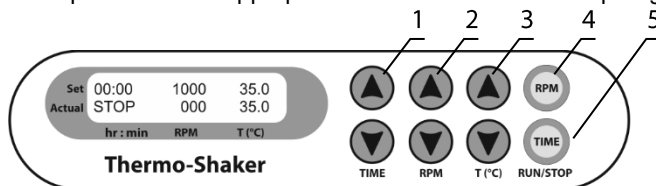

Fig.1 Control panel
- 4.3.1. **Setting time (TIME)**. Using the ▲ and ▼ keys (Fig. 1/1) set the required working time interval in hours and minutes (increment 1 min).
- 4.3.2. **Setting speed (RPM)**. Using the ▲ and ▼ keys (Fig. 1/2) set the required speed (increment 10 RPM).
- 4.3.3. **Setting temperature (T,°C)**. Using the ▲ and ▼ keys (Fig. 1/3) set the necessary temperature (increment 0.1°C).
- 4.4.2. Press the **RPM-RUN/STOP** key (Fig. 1/4). The platform will start rotating and the timer indicator will start counting up the time interval (with 1 min precision).
- 4.6. The timer can be reset during operation if required. Press the **TIME-RUN/STOP** key once (Fig. 1/5) to stop the timer. Press the **TIME-RUN/STOP** key again to restart the timer.
**Caution!** At the end of the set time period the platform movement is stopped automatically, but the heating can be stopped only by reducing the temperature using the ▼ T(°C) key (Fig. 1/3, lower button) till the OFF sign appears in the upper part of the display.